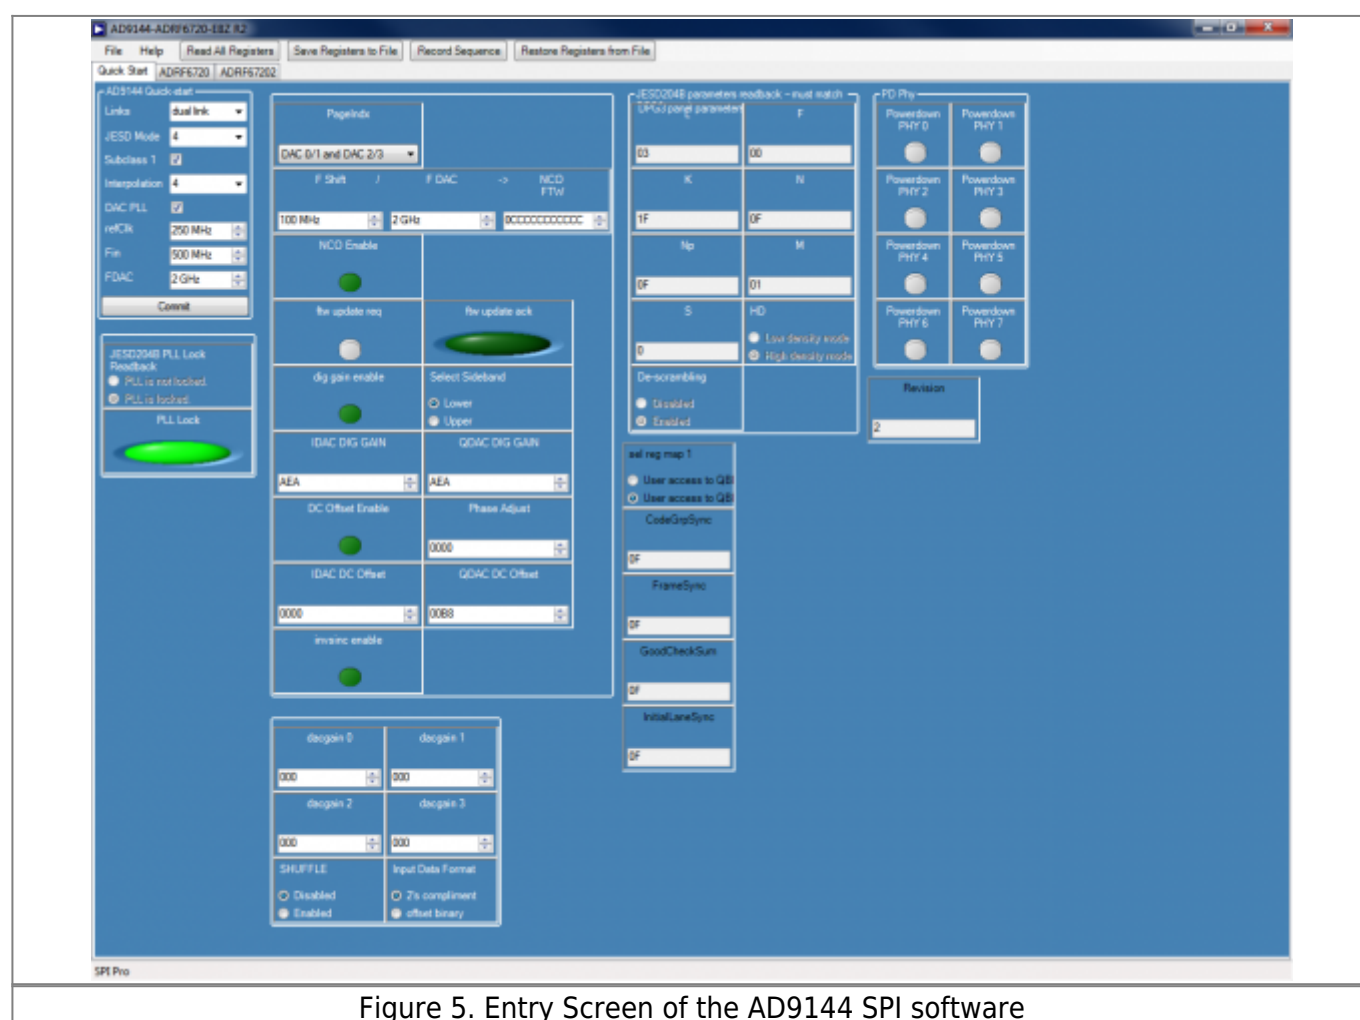

Figure 5. Entry Screen of the AD9144 SPI software
1. Open the AD9144-6720 SPI application (Start > All Programs > Analog Devices > AD9144 > AD9144 SPI). The screen should look similar to Figure 5.
a. Open the AD9144 customer SPI software and go to the Quick Start tab. (See Figure 5.) The parameters in the top left corner need to be selected in the Quick Start List in the panel. The Links should be set to dual link, mode (which is the interface mode) set to 4, Subclass 1 box checked, Interpolation set to 4, the DAC PLL box checked, REFCLK = 250Mhz Fin =500MHz and FDAC set to